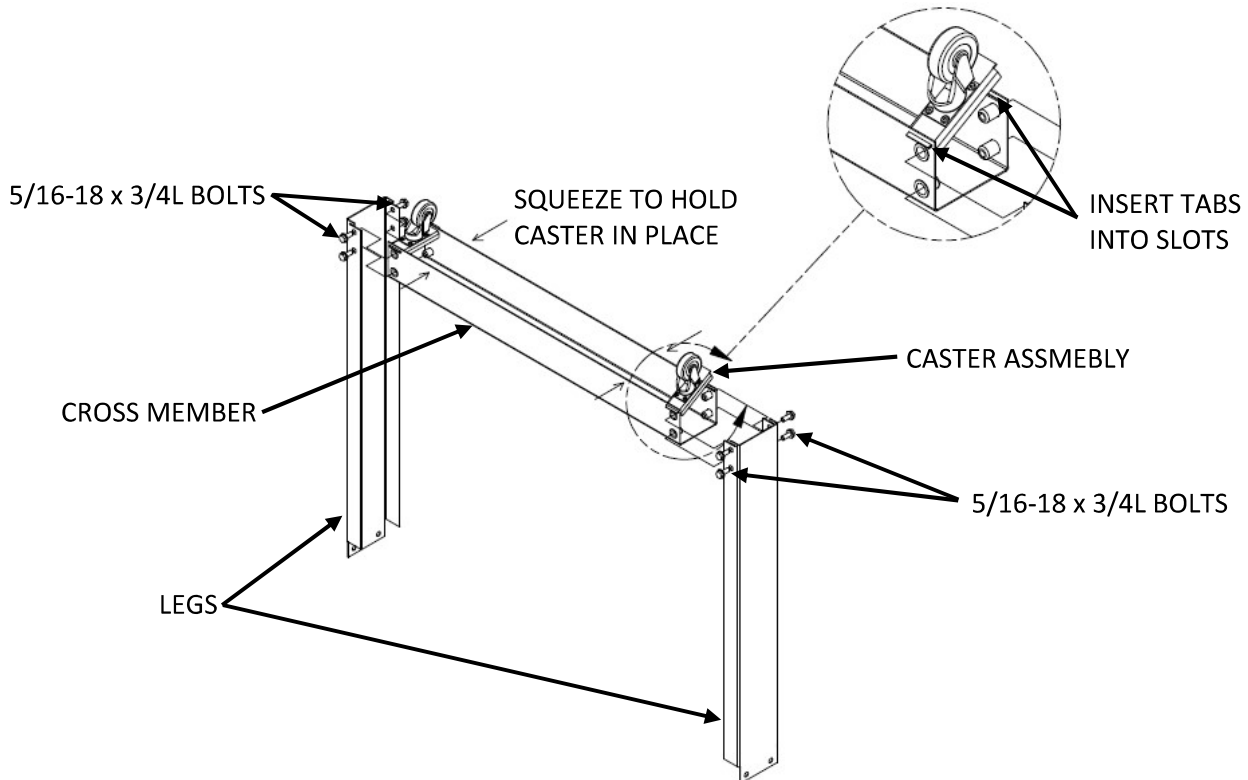

Figure 2
4. Insert the tabs on the **CASTER ASSEMBLY** into the slots in the **CROSS MEMBER FOR LEGS**, then squeeze the **CROSS MEMBER** to hold the **CASTER ASSEMBLIES** in place (see **Figure 2**).
6. Use four **5/16-18 x 3/4L BOLTS** to attach each **LEG** to the **CROSS MEMBER** (see **Figure 2**).